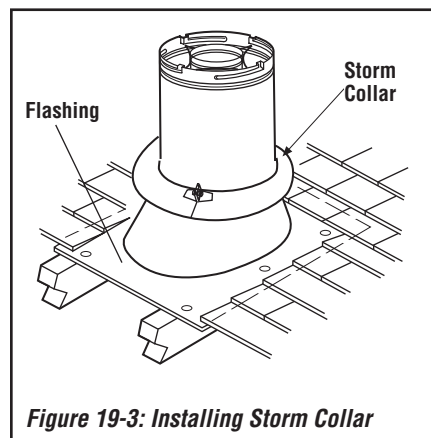

Figure 19-3: Installing Storm Collar
- Install roof flashing over the vent section (**Figure 19-3**), and position so the vent column rises vertically (use a carpenter's level).
Install the storm collar (supplied with the flashing) over the vent/flashing joint (see **Figure 19-3**):